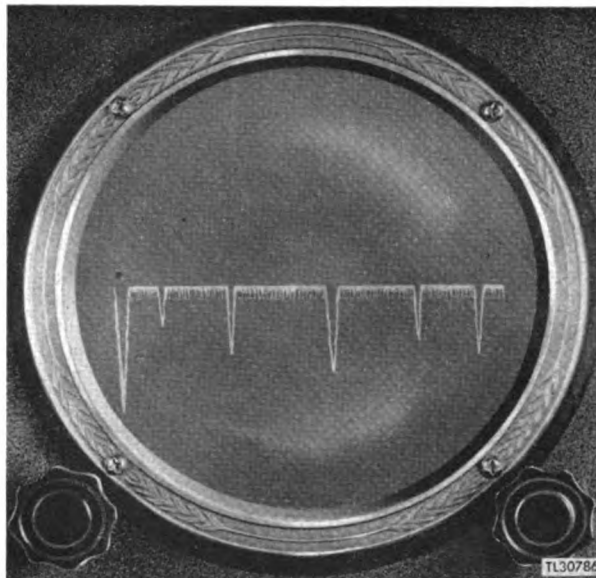

Figure 4. A-oscilloscope face.
b. **A-OSCILLOSCOPE.** The A-oscilloscope has a 5-inch screen on which the sweep trace appears as a horizontal line across the center of the screen. A target echo appears on this screen as a sharp vertical pip extending downward from the sweep trace (fig. 4). The distance from the left end of the sweep trace to the target echo on the screen corresponds to the distance between the radar set and the target, or the *range* of the target. When the antenna is aimed directly at a target, the height of this vertical pip is at a maximum, and as the antenna is turned away from the target the echo becomes smaller. Thus when the antenna is rotated continuously, the picture presented by this oscilloscope also varies continually and so provides little useful information as an indicator of range and azimuth. Its primary use, as will be discussed later, is to assist in tuning the system for optimum reception.